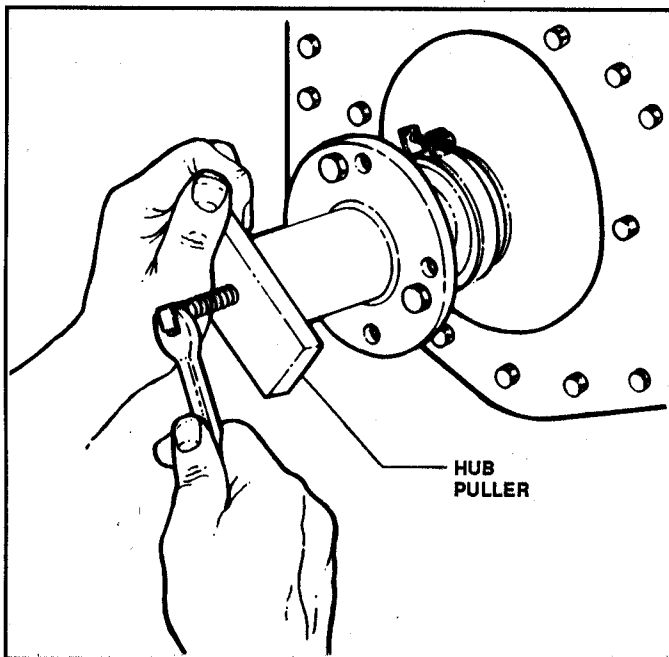

FIGURE 4.19
5. Pull wheel hubs using **SNAPPER** #60237 Hub Puller. See Figure 4.19.